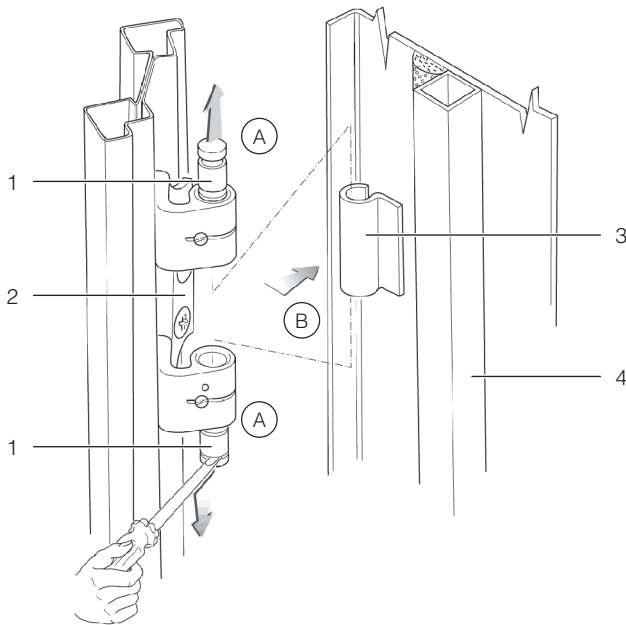

Fig. 24: Removing a door hinge
- Loosen the hinge bolts from the four door hinges by raising them with an appropriate tool (e.g. screwdriver). Pull the bolts out of the hinge pin holding fixture as far as they will go (see Fig.24, Step A). Begin with the lowest door hinge.
- Remove the server enclosure door (Fig. 24, Step B).